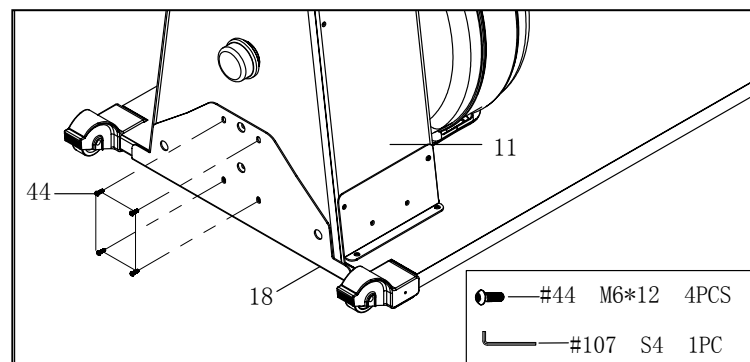

Fig. 14
3. Remove the strengthening plate (18) and the four bolts (44) from the main frame (11) (Fig. 14).